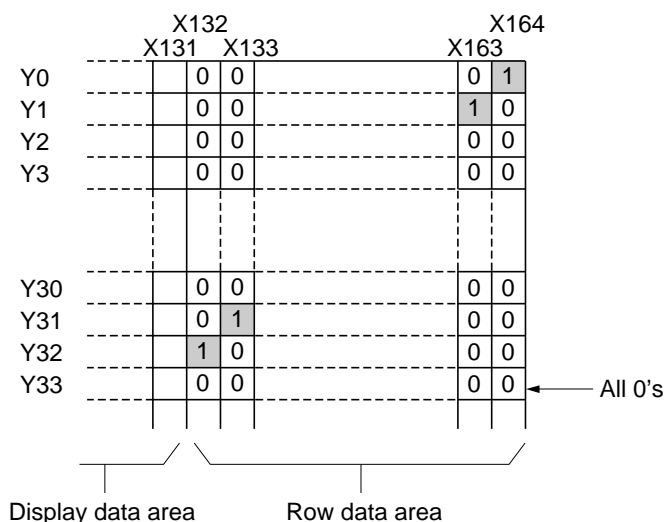

Figure 35 How to Set Row Data for 33-Row Output from the Right Side
(1) After busy time is terminated, an X or Y address is not incremented until 0.5-clock time has passed. If an X or Y address is read during this time period, non-updated data will be read. (The addresses are incremented even in this case.) In addition, the address increment direction should not be changed during this time since it will cause malfunctions.
(2) Although the maximum output rows is 33 when 33-row-output mode from the right side is specified, any multiplexing duty ratio can be specified. Therefore, row output data sufficient to fill the specified duty must be input in the Y direction. Figure 35 shows how to set row data in the case of 1/34 multiplexing duty ratio. In this case, 0s must be set in Y33 since data for the 34th row (Y33) are not output.
(3) Do not set the C select register's CLN bits to 0 for the M signal of C-type waveform.